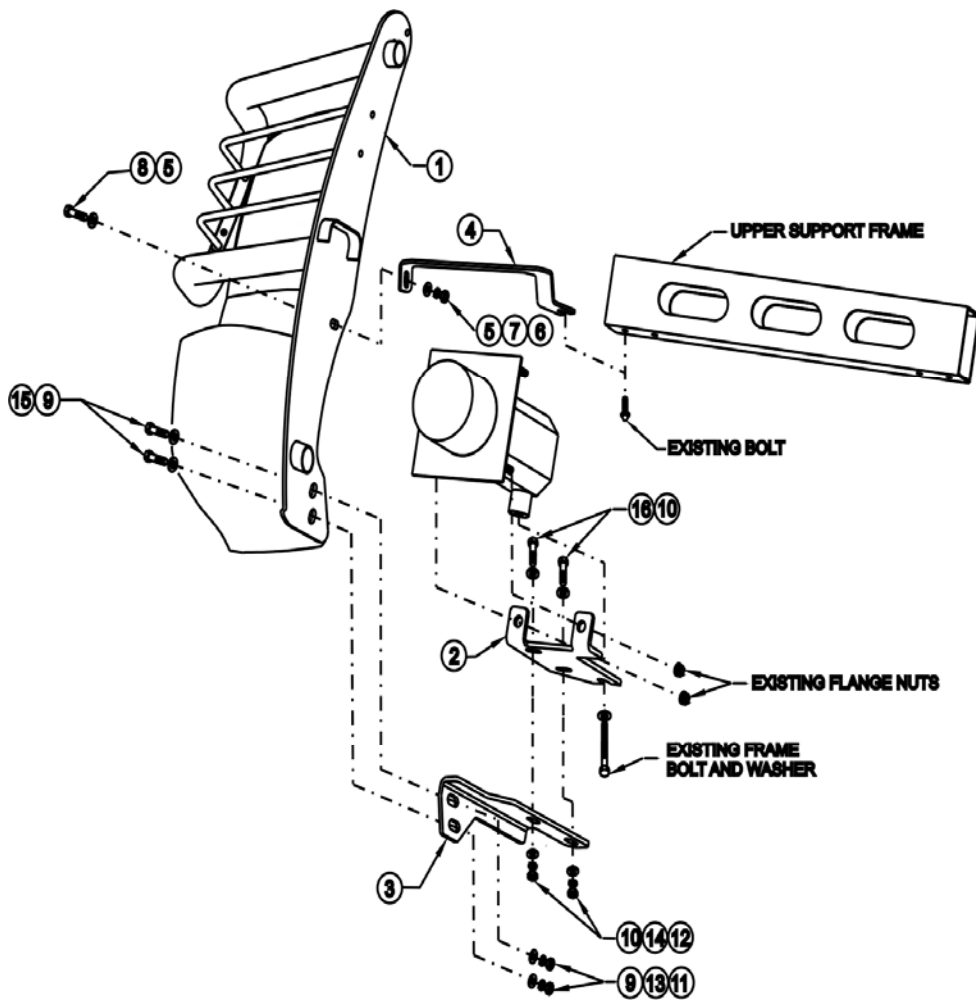

FIGURE 1.
STEP 2. Open hood and attach support braces as shown. **SEE FIGURE 1**
STEP 3. From underneath vehicle, remove the 4 lower nuts holding the bumper frame to the main frame and the 2 body mount bolts, then attach top brackets as shown. **SEE FIGURE 1.**
STEP 4. Attach bottom brackets using Yellow Zinc M12 fasteners as shown. **SEE FIGURE 1.** Leave loose.